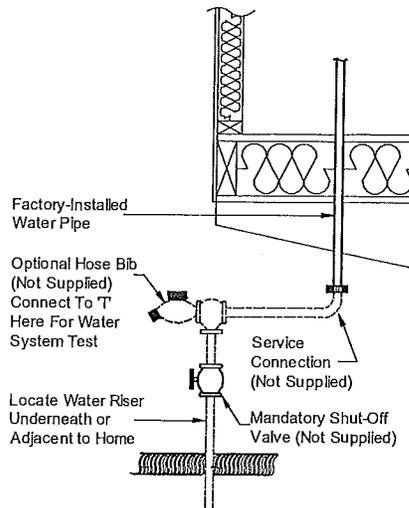

Figure 79. Water system connection
To connect the home's water system to the water source, identify the water inlet located under the home (usually below the water heater compartment or utility room) and follow the procedure described below (refer to **Figure 79**):
**Pressurize system.** Connect a hydrostatic pump, valve, and gauge to the location shown in **Figure 79**. Pressurize the system with water at 100 psi, and then isolate it from the pressure source. Bleed all air from the highest and farthest points in the system.